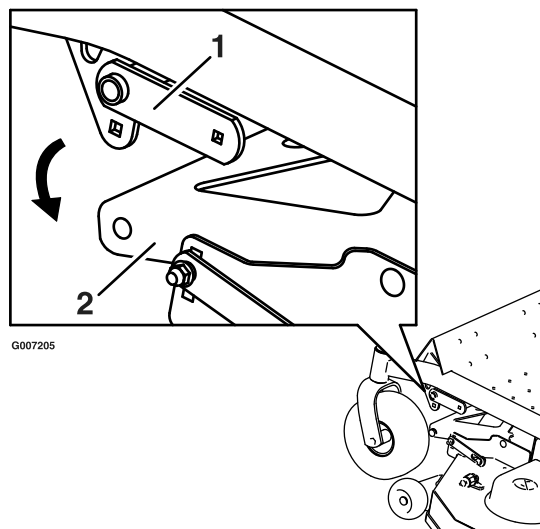
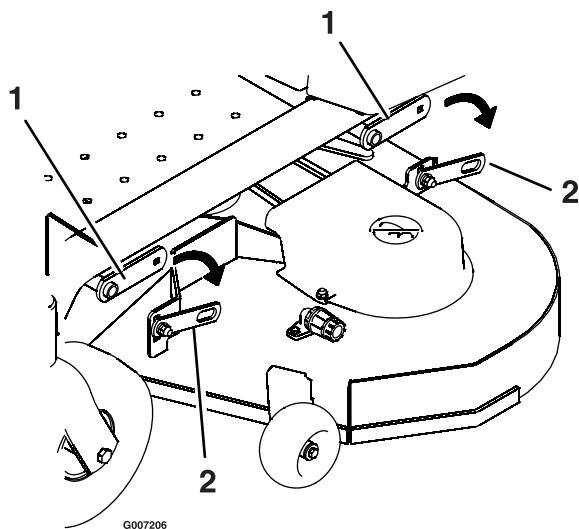

Figure 47
Figure 48
4. Remove the hardware from the deck hanger and deck lift arm on both sides of the deck (Figure 47).
- Remove the nut, bolt, and pivot bushing from the deck strut (Figure 47). Carefully lower the front of the mower deck to the ground (Figure 48).
- Use the existing hardware to attach the rear deck strut of the mower to the deck lift arm (Figure 48).
- Attach the hardware from the deck hanger and deck lift arm on both sides of the deck (Figure 47).